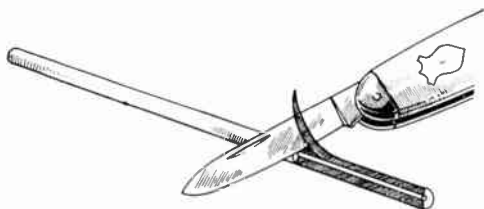

FIG. 114. Stripping a wire.
Step 1. Cut the insulation off the wire for about 2 inches. Scrape till clean and bright. Slice off the insulation as shown in Fig. 114, moving the knife along the wire so as not to cut the wire. Copper breaks easily where it is scratched or marked with a knife or pliers. In making an